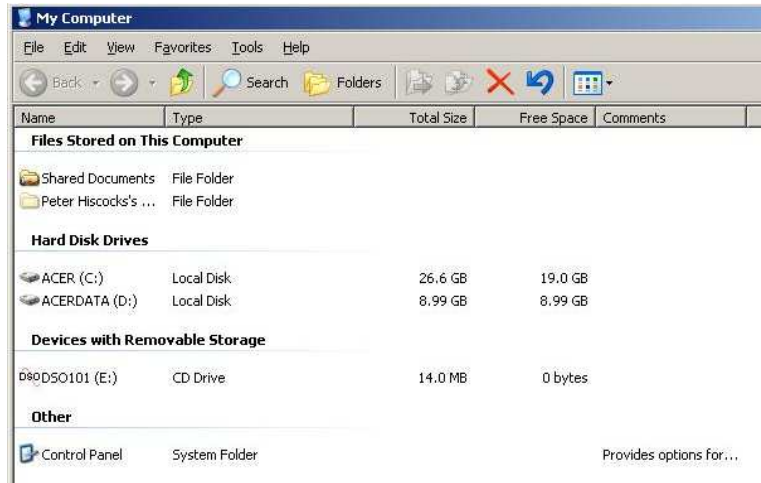

Figure 20: My Computer
1. Double click on My Computer to obtain a screen like figure 20.